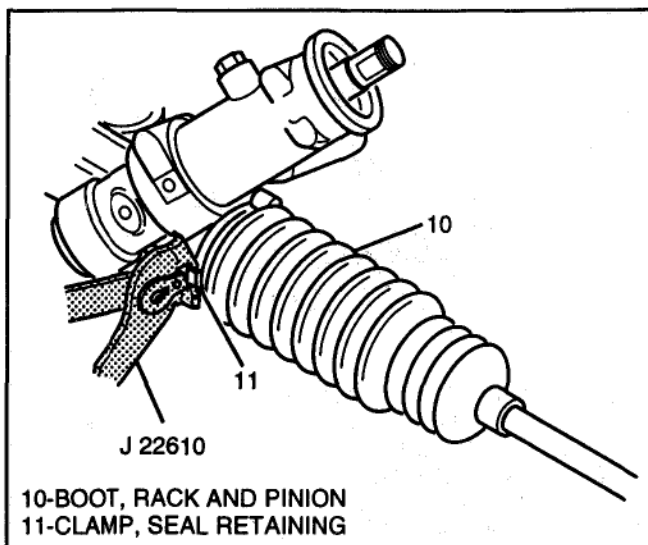

Figure 6 Boot Clamp Installation
- Boot (10) must not be twisted, puckered or out of shape in any way. If the boot is not shaped properly, adjust by hand before installing seal retaining clamp (11).
4. Seal retaining clamp (11) on boot (10) with tool J 22610 and crimp as shown (see Figure 6).
5. Tie rod end clamp (8) with pliers on boot (10).
6. Hex nut (7) to inner tie rod assembly (12).